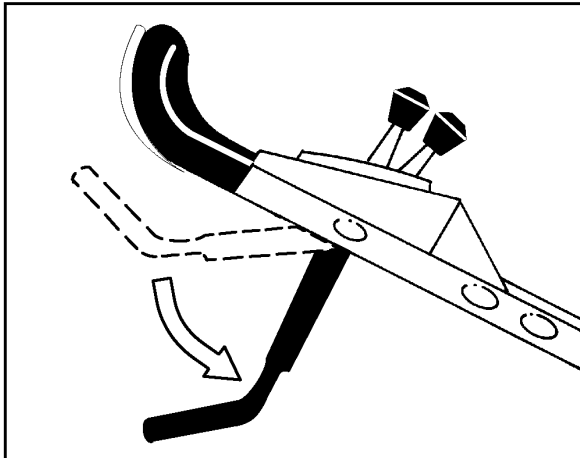

Figure 3
2. Push the black control bar down to its lowest position (Fig. 3).